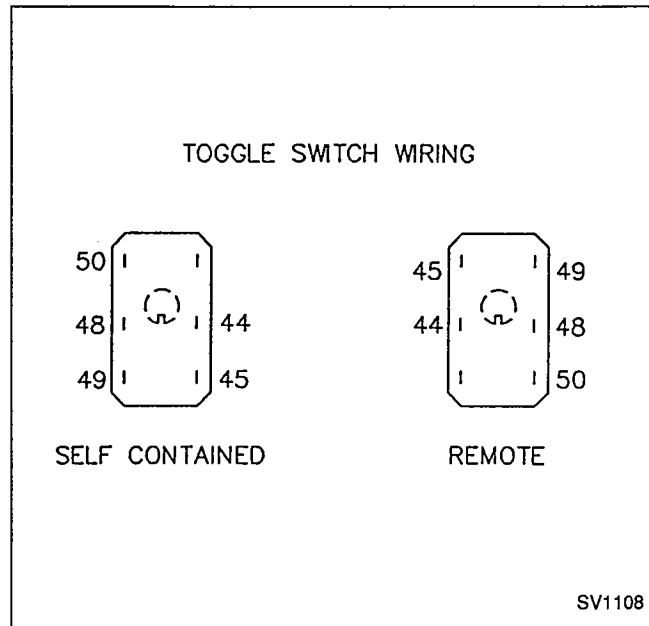

FIGURE 52. ICE/OFF/WATER PUMP SWITCH CHECK
2. Inspect switch (Figure 52) for correct wiring.